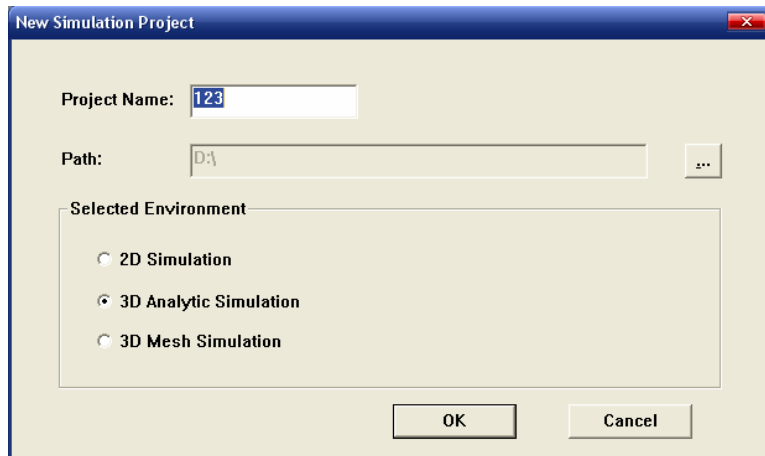

Figure 2. Build a New Project
2. The first step to start the simulation is to build a new project. Select the menu named **New** under the **File** menu, or click the button  on the toolbar, the *New Simulation Project* window appears (Figure 2).